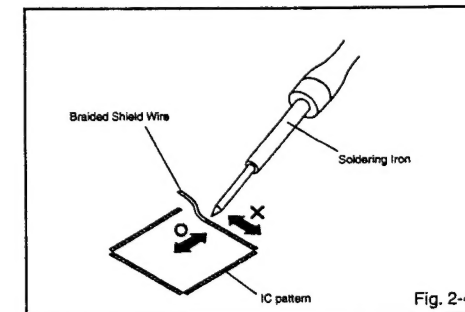

Fig. 2-4
5. Absorb the solder left on the pattern using the Braided Shield Wire. (Refer to Fig. 2-4.)